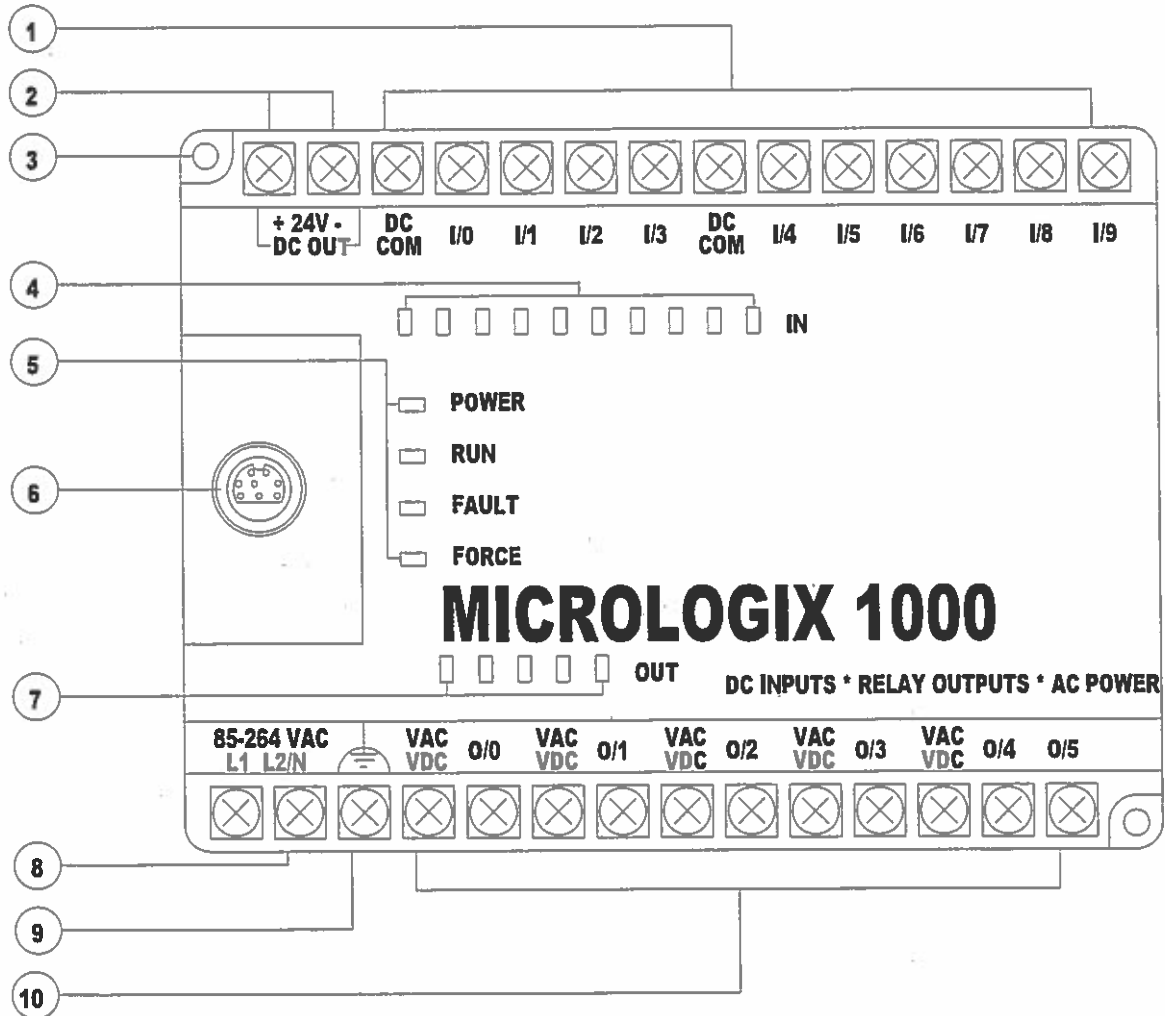

Figure 2-2
There are ten parts to the controller of the PLC as shown in Figure 2-2. They are:
4. Keep fingers and objects away from the 110-volt (or 220-volt) terminals on the top left edge of the controller body (see Figure 2-2). You can get an electrical shock from touching them.